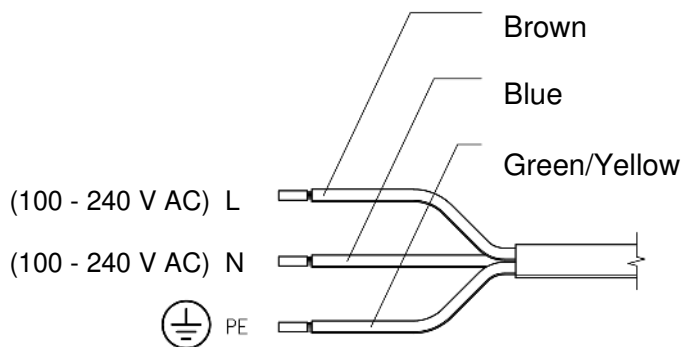

Figure 9: MPM power cable
- Connect the power cable to the mains power point or fit a plug. See figure 9.